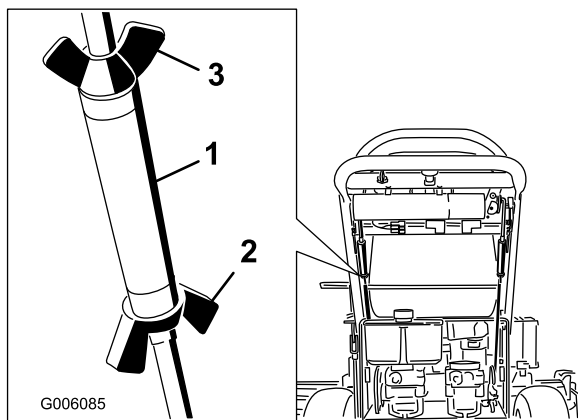

Figure 38
3. Loosen the wing nuts on the right control rod and rotate the turnbuckle in or out to ensure the right side control lever is centered in the neutral lock position. Secure the turnbuckle in position with the wing nuts (Figure 38).
4. Loosen the wing nuts on the left control rod and rotate the turnbuckle in or out to change the tracking. Secure the turnbuckle in position with the wing nuts (Figure 38).